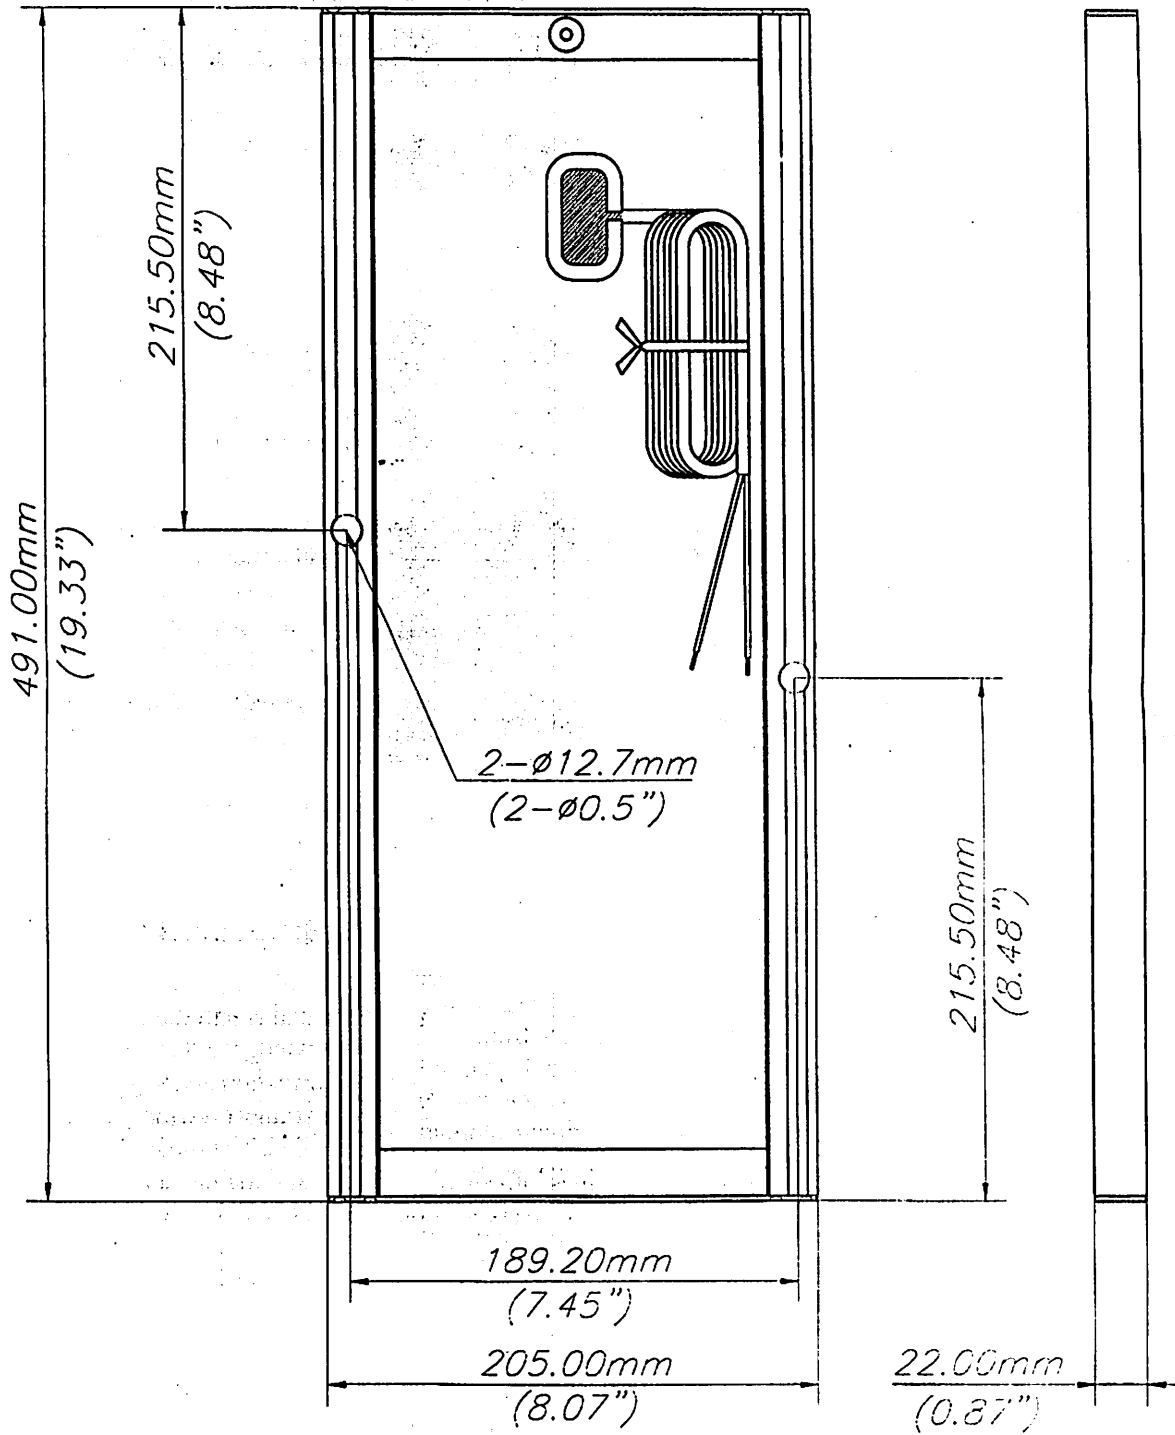

Figure 1
Mounting holes in the aluminum frame channel of the modules are provided that fit 1/4 inch diameter fasteners (see Figure 1). Mount the modules using at least four (4) fasteners (bolts with 1/4" hex head) through holes in the desired mounting structure using lockwashers and nuts. Clearance between the module and a mounting surface can be the minimum necessary to prevent wire chafing. When installing modules on a building, use stand off or rack methods. Contact your United Solar Ovonic distributor for details.